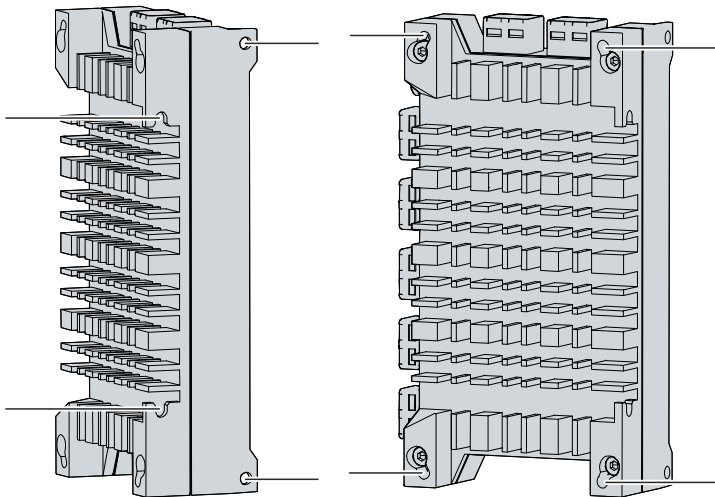

Fig. 14: C7015_Mounting with mounting concept
1. Place the Industrial PC in the desired orientation over the drill holes at the marked points of the mounting concept (see Fig. 14).